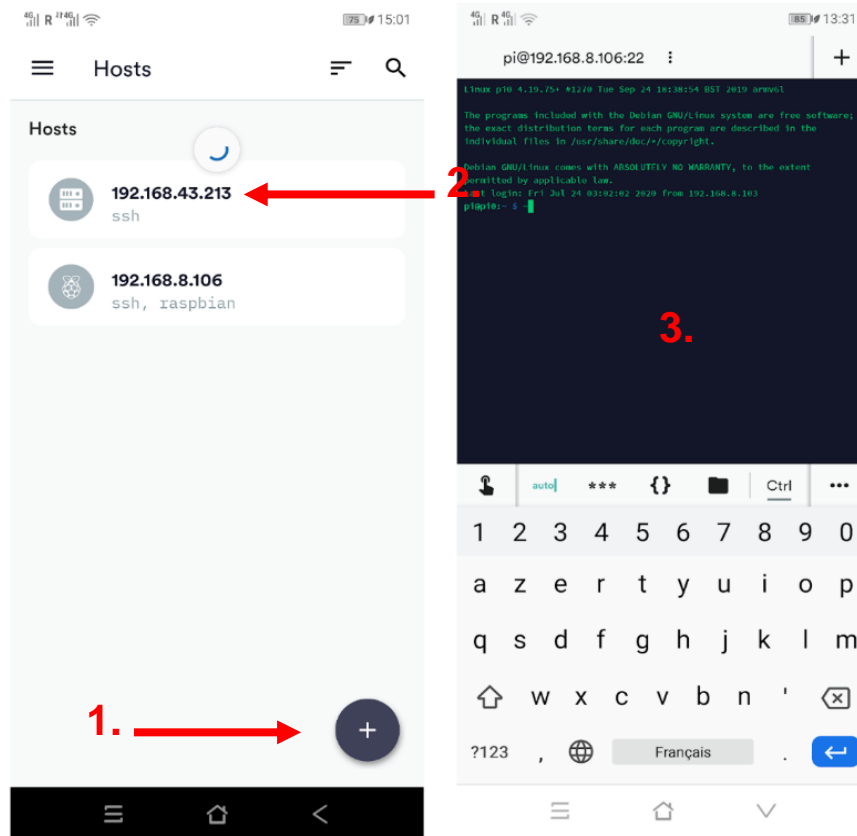

Figure 17. The Termius interface on Android
- Browse the Google Play Store for **Termius** app and install it. The interface is shown on Fig. 17.
- The configuration tool menu will appear (Fig. 17).
- Go to <Finish> and accept to restart the Raspberry Pi Zero (W) when asked.